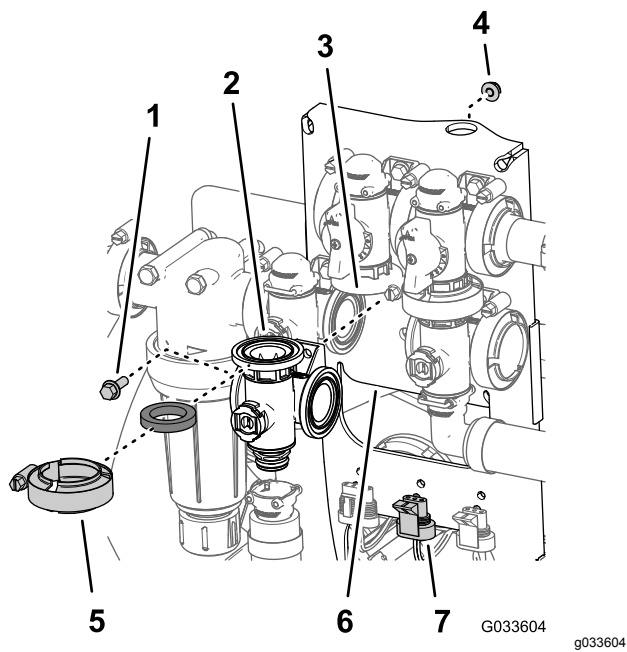

Figure 112
1. Align the flange of the agitation-valve manifold, a gasket, and the flange of the agitation bypass valve (Figure 112).
9. Assemble the agitation valve to the valve mount with the flanged-head bolt and flanged locknut (Figure 112) that you removed in step 3 of Removing the Agitation Manifold Valve \(page 74\) and torque the nut and bolt to 10 to 12 N·m (90 to 110 in-lb).